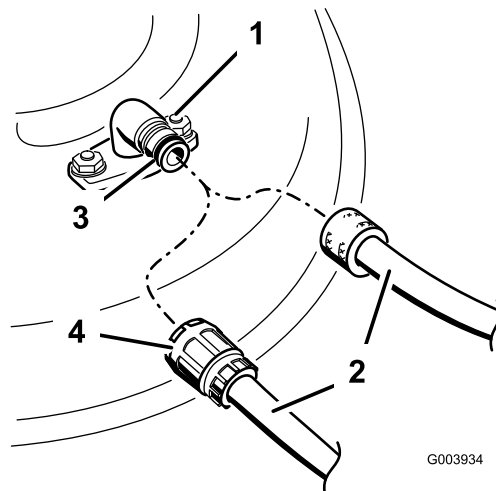

Figure 49
3. Attach the hose coupling to the end of the mower washout fitting, and turn the water on high (Figure 49).